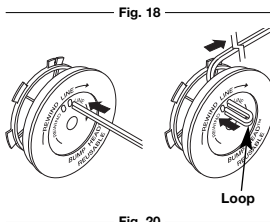

Fig. 20
8. Take approximately 10 feet (3 m) of new trimming line. Insert one end of the line through one of the two holes in the inner reel (Fig. 20). Pull the line through the inner reel until only about 4 inches is left out.
9. Insert the end of the line into the open hole in the inner reel and pull the line tight to make the loop as small as possible (Fig. 20).